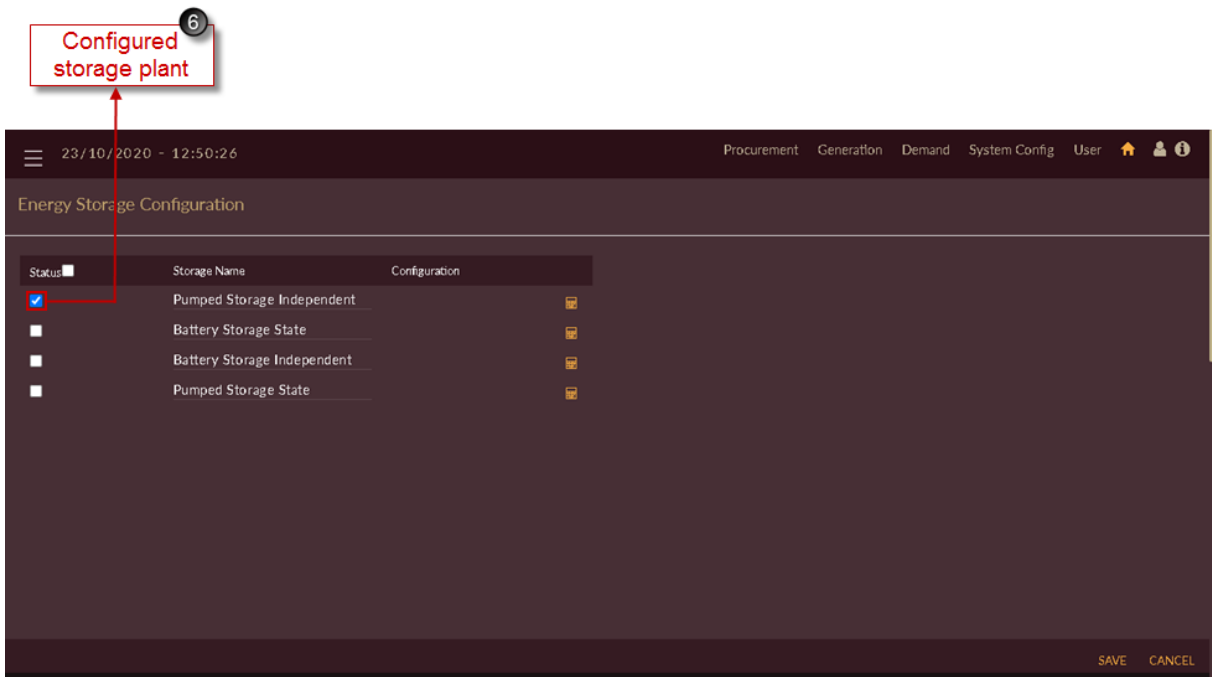

Figure 285. Successfully Configured Storage Plant
- Figure 285 shows configured storage plant into the PPO Base case scenario. Blue tick indication  appears for the storage plant which is configured or participating into the scenario for PPO studies.